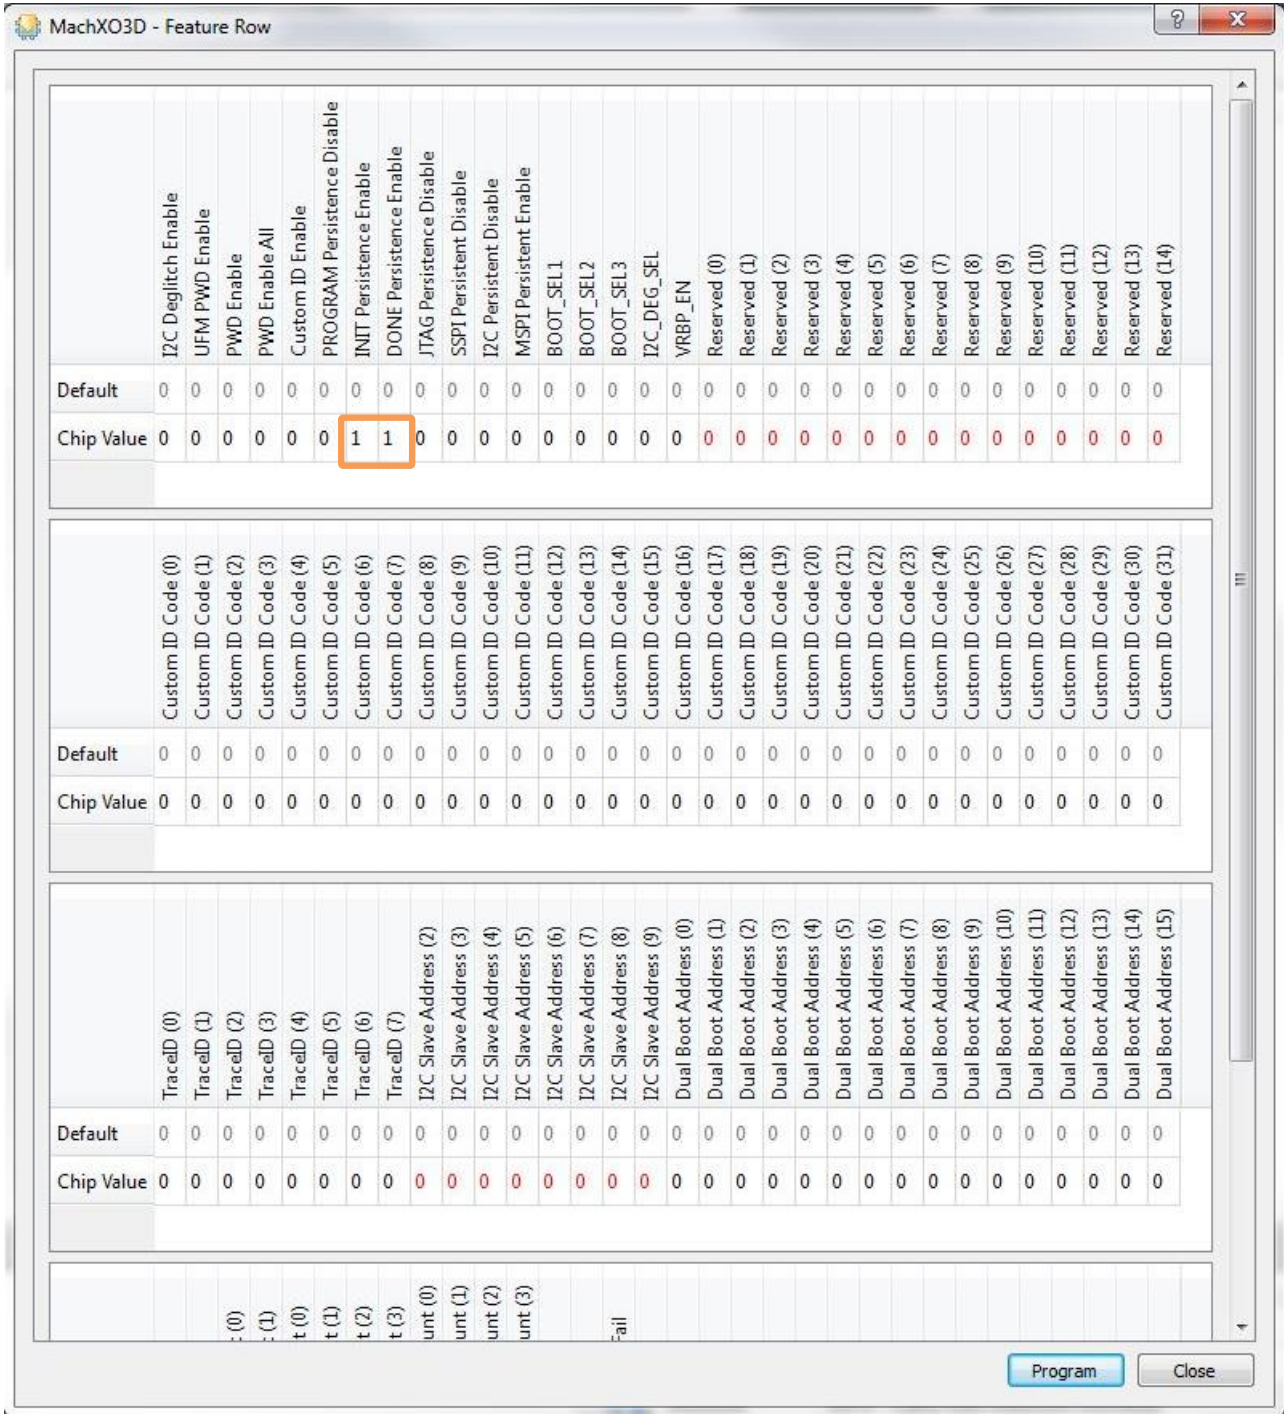

Figure 4.13. Feature Row Update
3. Update the two register values indicated in Figure 4.13 to enable the LED indicator function for MachXO3D device.